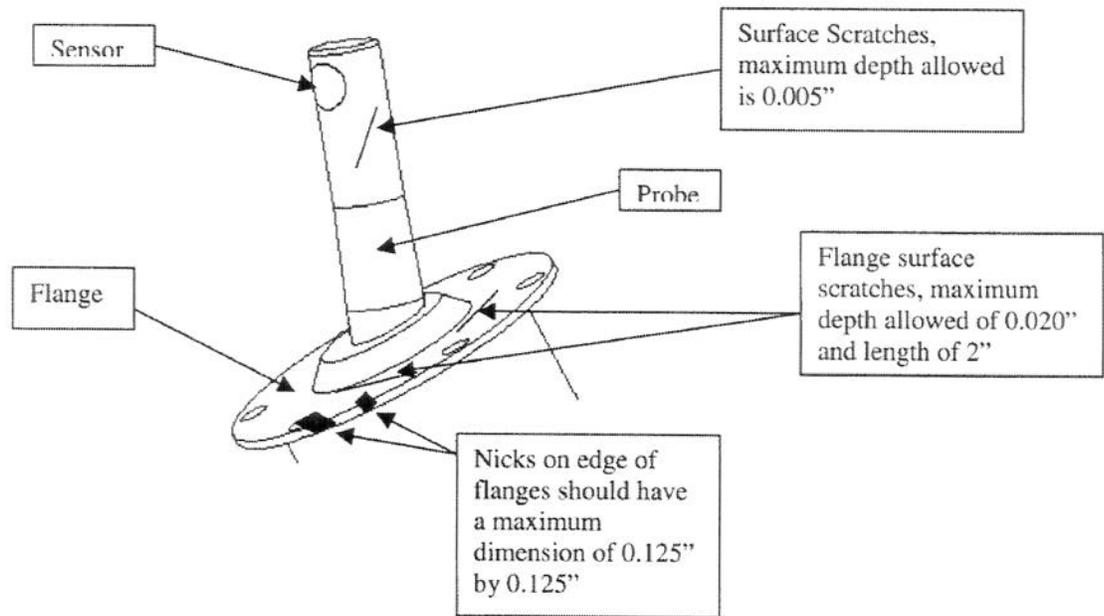

Figure 6
- (2) Make sure that the eight mounting screws used to secure the housing are tightly installed.
- (3) Make sure that the connector is not damaged. Make sure that the surface of the connector is clean and that there is no unwanted material. Make sure that the connector nut is tightly installed. Make sure that there are no loose or bent pins. Make sure the pins are clean and untarnished.
- (4) Visually examine the sensing element. No cracks or damage are permitted.
- (5) Visually examine the flange surface: See figure 6